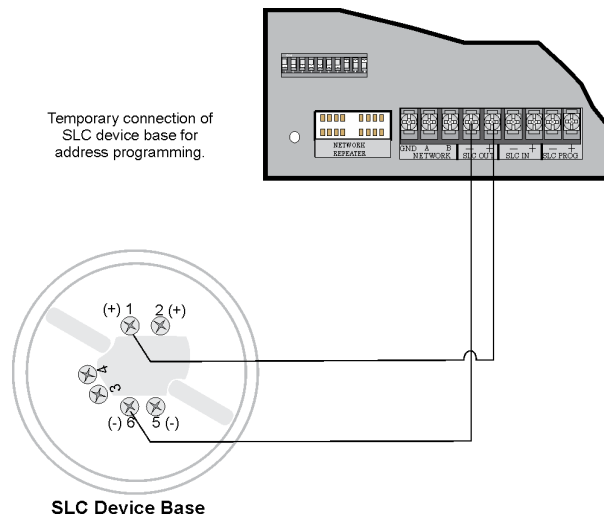

Figure 7-7 Temporary Connection of Detector Base to Panel for Addressing
1. Connect a detector base temporarily to the programming terminals as shown in Figure 7-7. (You can use the same base for each detector.)